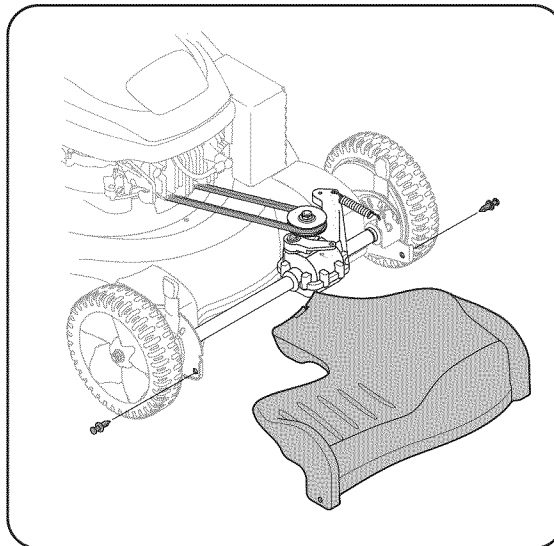

Figure 12
3. Remove the transmission cover by sliding off the two plastic rivets with a screwdriver on each side of cover. See Figure 12.